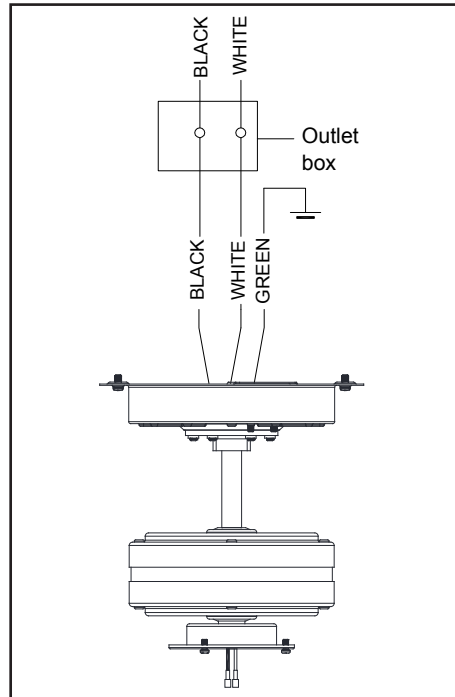

Figure 8
1. Connect the ground conductor of the 120-Volt supply (this may be a bare wire or a wire with green colored insulation) to the green wire from the motor bracket using a plastic wire connecting nut. (Figure 8)
2. Connect the fan motor white wire to the household white wire using a plastic wire connecting nut. (Figure 8)
3. Connect the fan motor black wire wire to the household black wire using a plastic wire connecting nut. (Figure 8)